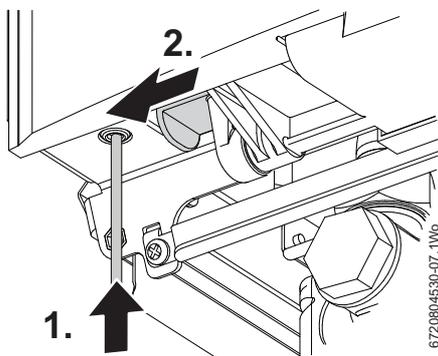

Fig. 119 Control unit release
1. Refer to figure 119 and using a suitable tool, press the button up.